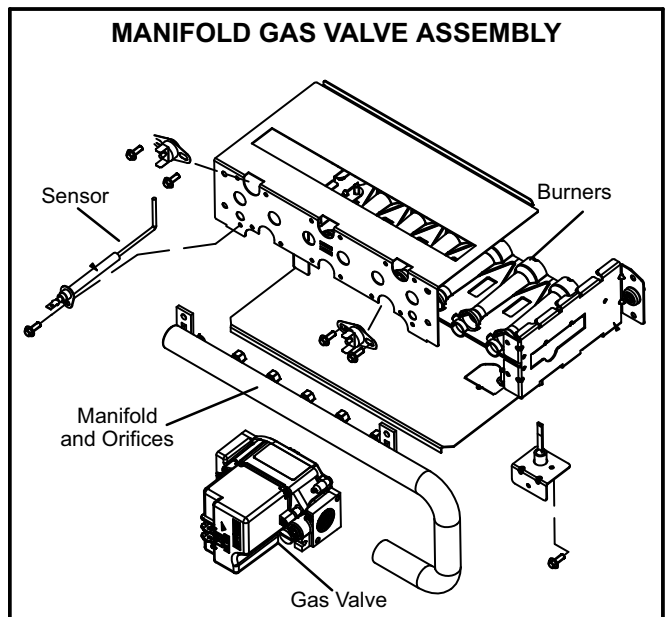

FIGURE 3
- 5 - Replace the burner orifices with the provided gas orifices. Torque to approximately 35 in-lbs. **Do not** use sealant on orifices. Figure 3 shows manifold/gas valve assembly.